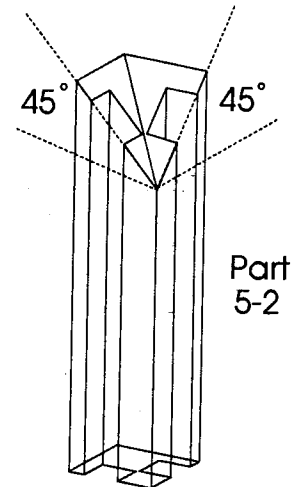

Figure 24
2. The corner posts that connect Walls B and C and Walls E and F need to be cut at the same angle in two directions. Figure 24.